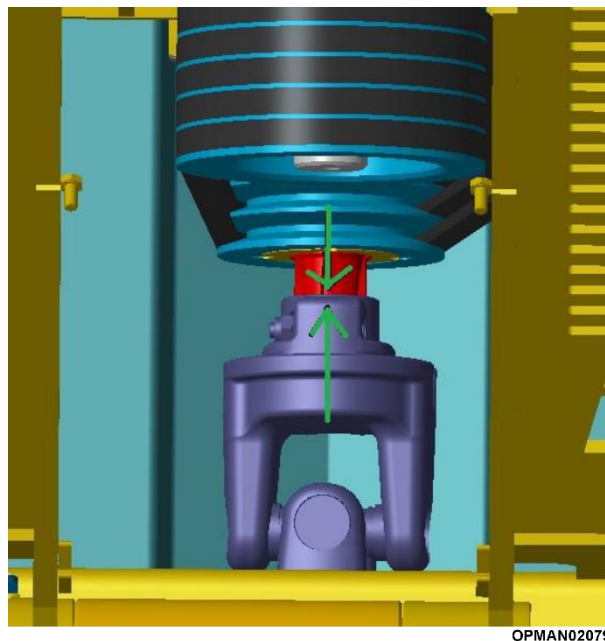

Figure 31
9.3.2.3 Remove the PTO driveshaft. Mark the position of everything to know its position of each when assembling them on back (Figure 31).
- 9.3.2.5 Re-install PTO driveshafts, each on the same position as shown in Figure 31.